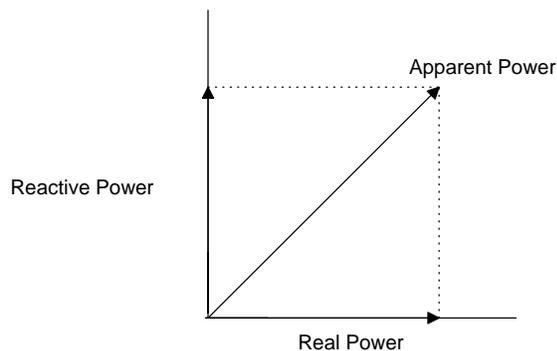

Figure 1: Power Triangle
The apparent power unit is volt-ampere (VA) and is the vector sum of the real and reactive power vectors in the power triangle (Figure 1).
- 1.2.6 Power Factor: the ratio of the real power to the apparent power required to operate a device (refer to Figure 1). Power Factor may be measured directly (from a power analyzer) or it may be calculated using the following relationship (refer to Equations 1 and 2):